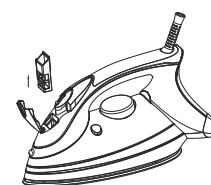

Fig.3
2. Open inlet cover and take Anti-calc box upwards out of the filling hole (Fig.3).